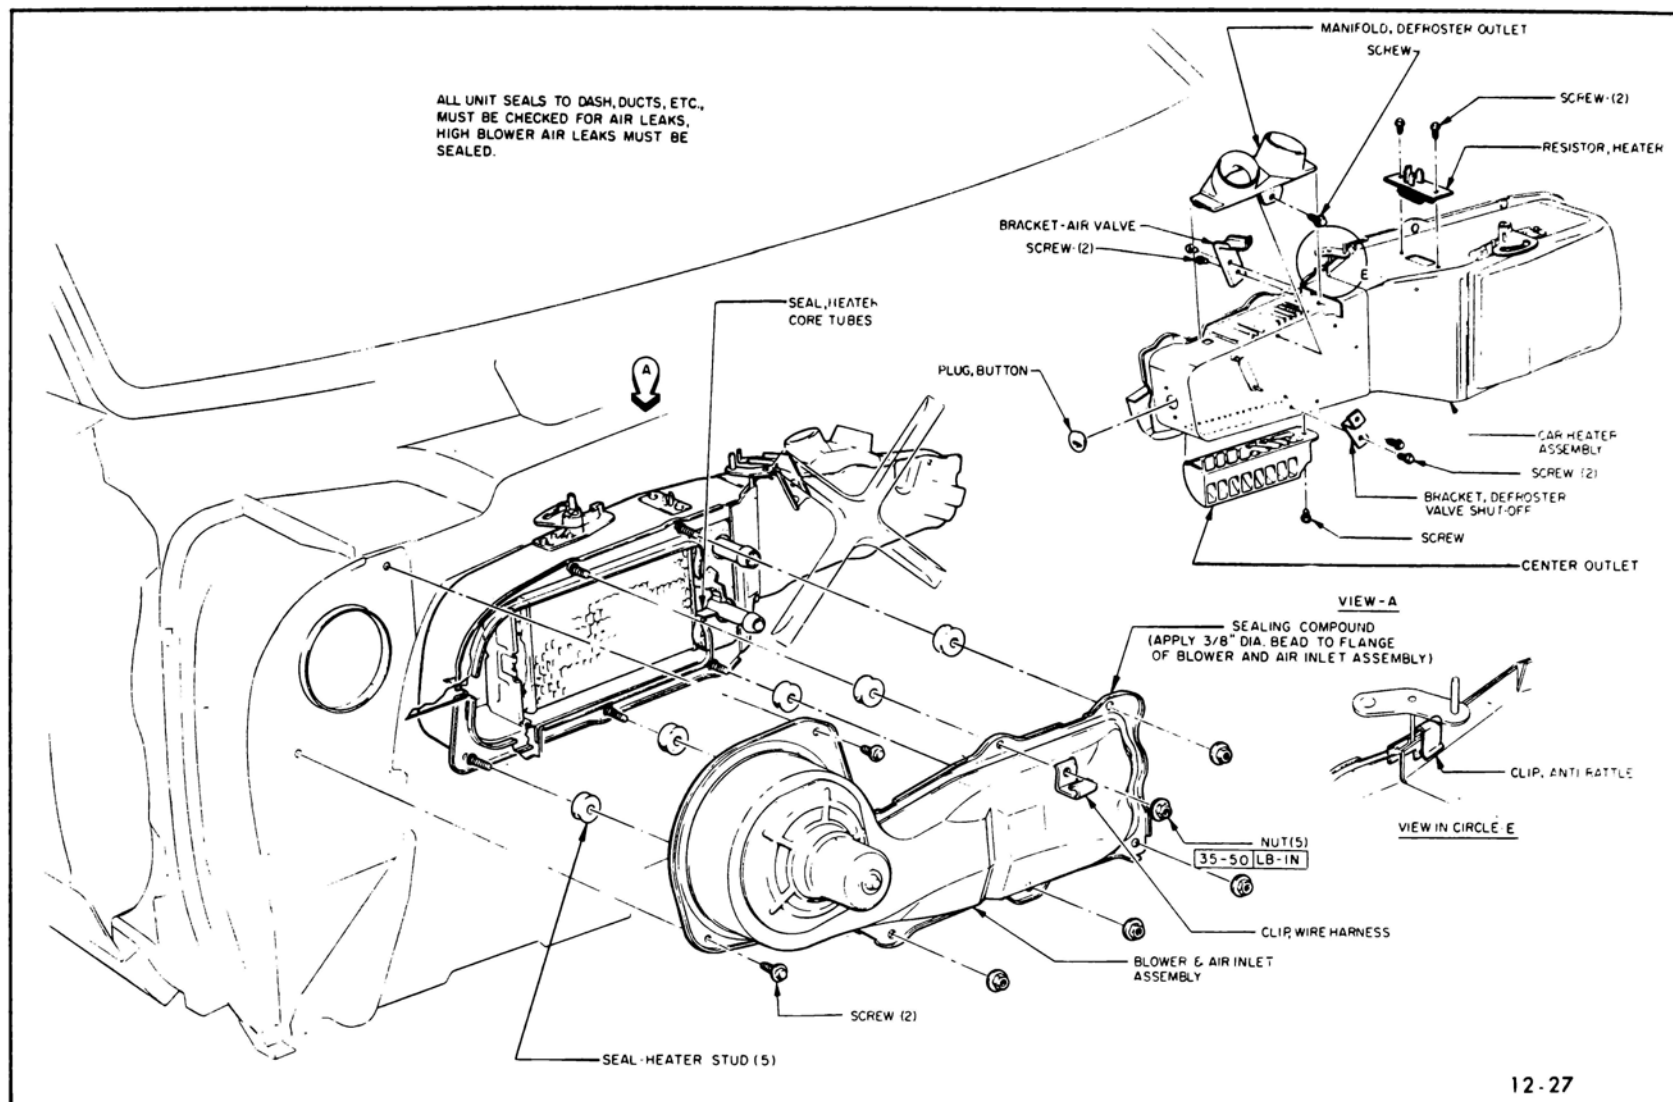

Figure 12-11 Heater Installation
mixed in varying amounts with cooler outside air to attain the desired air temperature. The system consists basically of three parts: (1) the blower and air inlet assembly, (2) the heater assembly and (3) the heater control assembly (see Figure 12-11). The operation of the system is as follows:
(Blower Motor and Air Inlet Assembly) Disconnect blower motor wire. Remove five nuts and two screws securing blower and air inlet assembly to dash. See Figure 12-11.
4. Remove five nuts securing heater-defroster assembly to dash. See Figure 12-11.